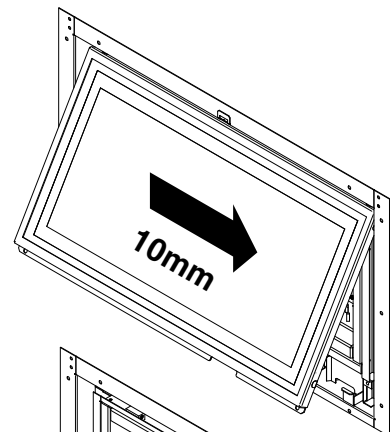

Fig. 49
3. Slide the door to the right by 10mm and remove the door from it's hinges (Fig. 49 & 50).